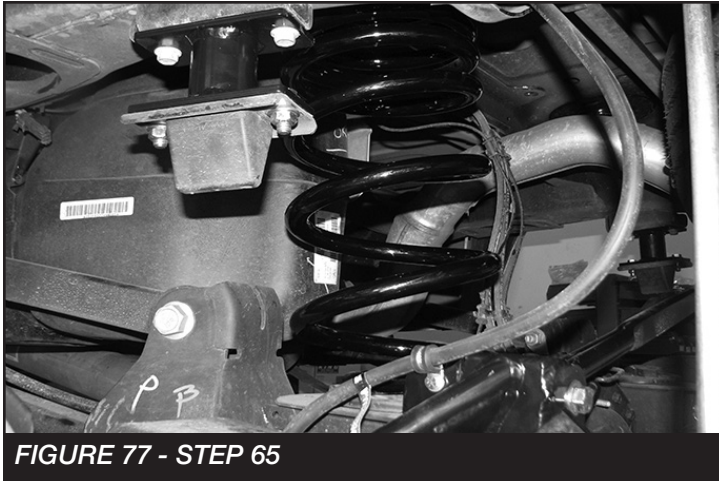

FIGURE 77 - STEP 65
65. Locate and Install (FT44321BK) Fabtech rear spring using the factory rubber isolators as shown. **SEE FIGURE 77**